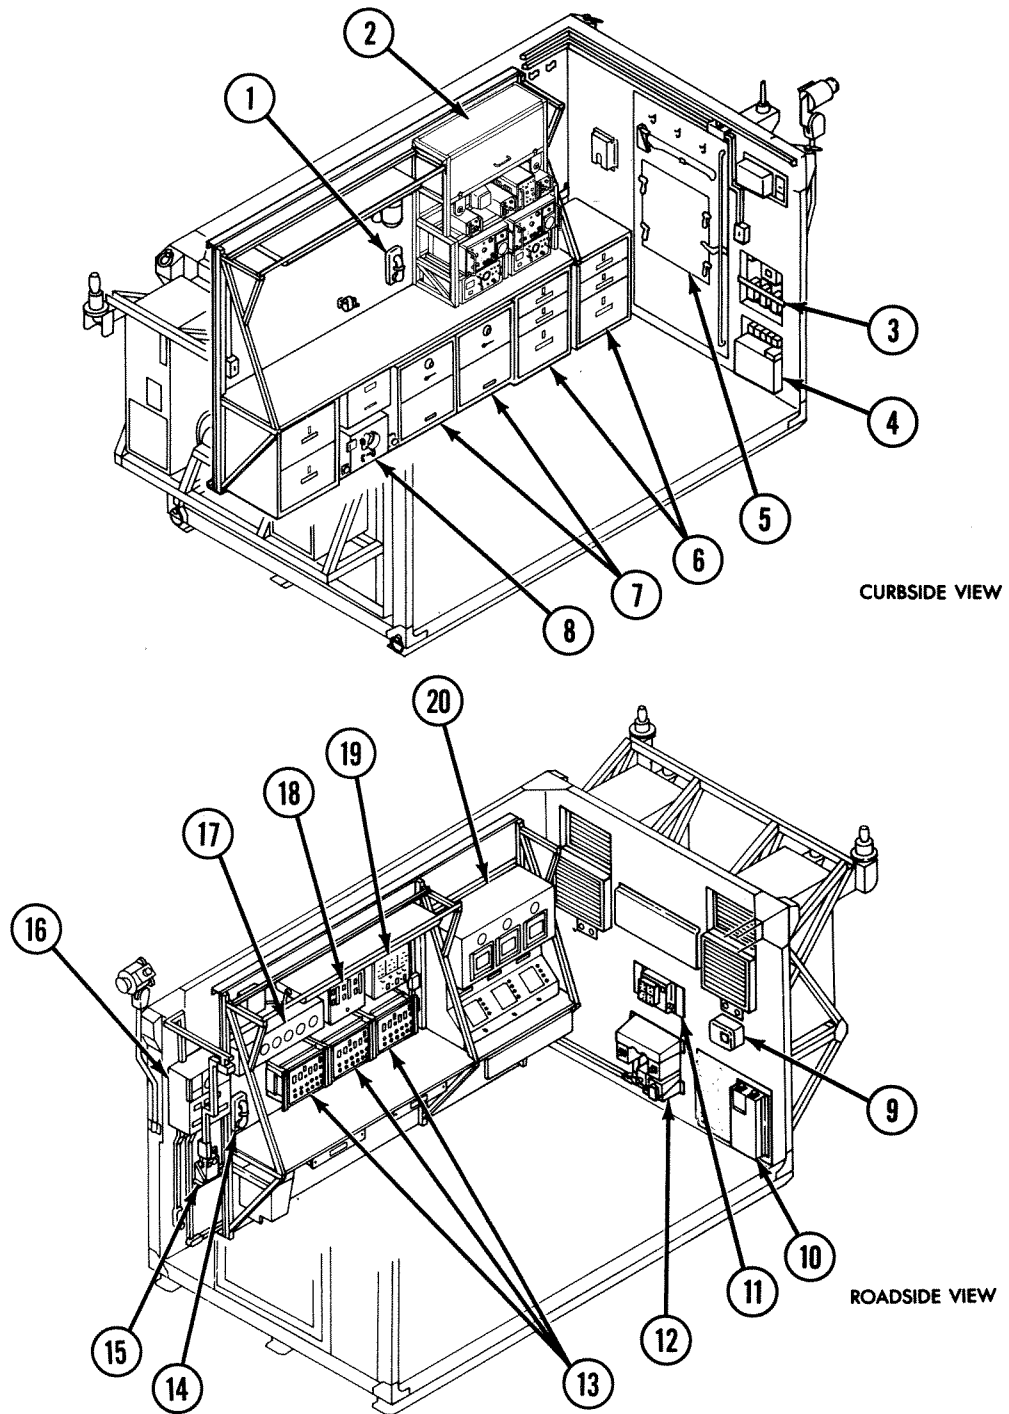

Figure 2-24. PCC Major Interior Features
b. Interior Features. Figure 2-24 shows PCC major interior features.